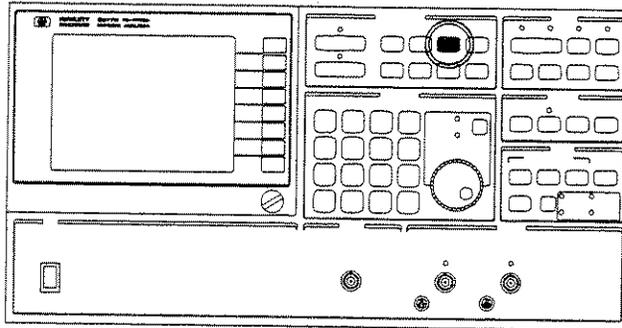

Figure 4-46
**SCALE** is a hardkey in the DISPLAY FORMAT section of the front panel that displays the menus of softkeys shown in figure 4-46. These softkeys modify the vertical axis scale and value of the reference line. None of the [ **SCALE** ] features require a new measurement sweep when their values change (except in [ ALTERNATE SWEEP ]). Each uses data stored in trace memory to reconfigure the screen.